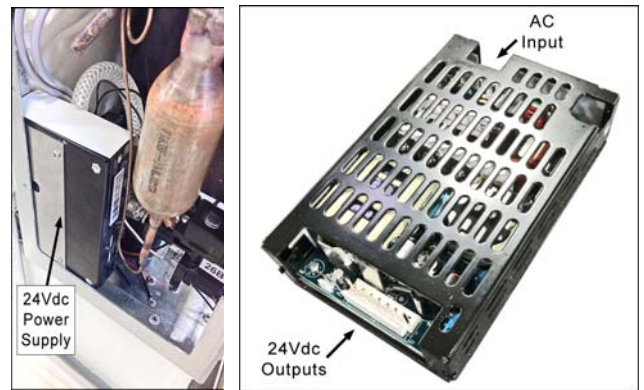

Figure 6-9 - 24Vdc Power Supply & Mounting
- 3) Disconnect the AC wiring from the top of the power supply (Fig. 6-9).